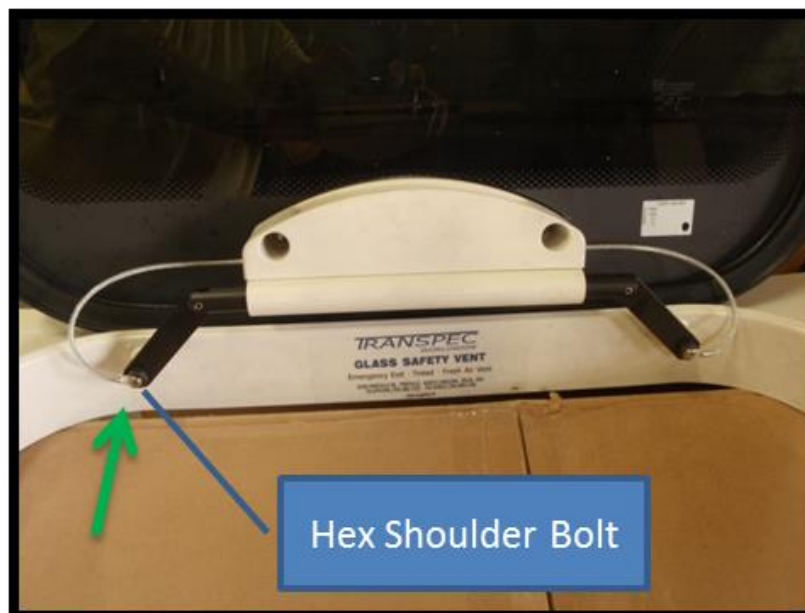

Figure 19: Torque fastener to 55 in-lb.
10. Secure the second linkage with the hex shoulder bolt. Torque the fastener in Figure 19 (green arrow) to 55 in-lb.